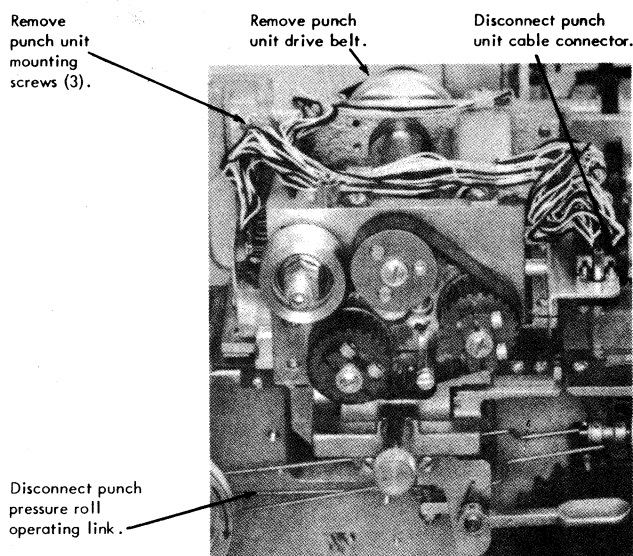

Figure 4-36. Punch Unit Removal
2. Remove punch unit drive belt (Figure 4-36).